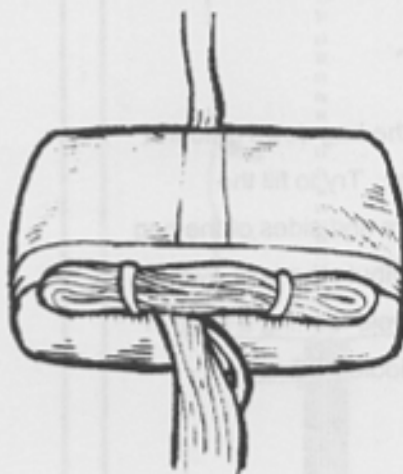

FIG. 6
- 8) Mate the locking stows with the suspension lines to close the mouth of the bag. On the smaller model bags, there are two locking stows; the larger model bags have four locking stows. (SEE FIG. 6)